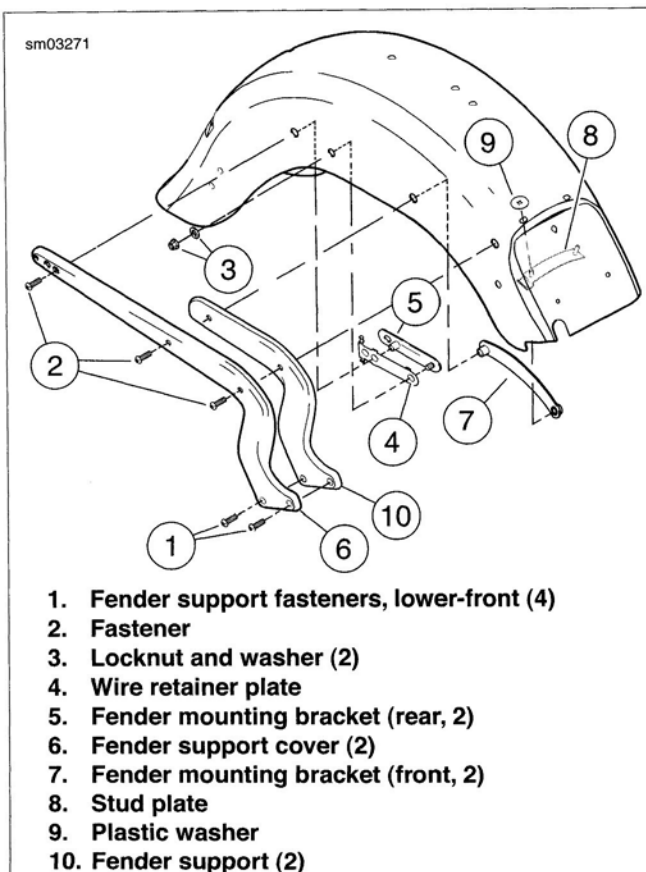

Figure 2-111. Rear Fender: FLSTF/B
6. See Figure 2-111. Remove fasteners (2) from front fender mounting brackets (7), rear fender mounting brackets (5) and wire retainer plates (4).